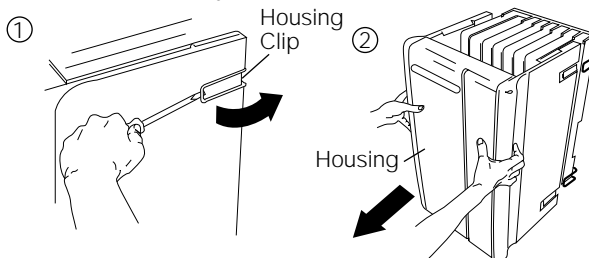

Figure 9-1. Removing the Control Unit Housing
Remove the control unit housing as described below. See Figure 9-1.
1. Remove the front housing from each carrier by pulling the bottom front towards you, and lifting it up as shown in Figure 9-1.
- ▶ 1. Remove the control unit housing. See Figure 9-1.